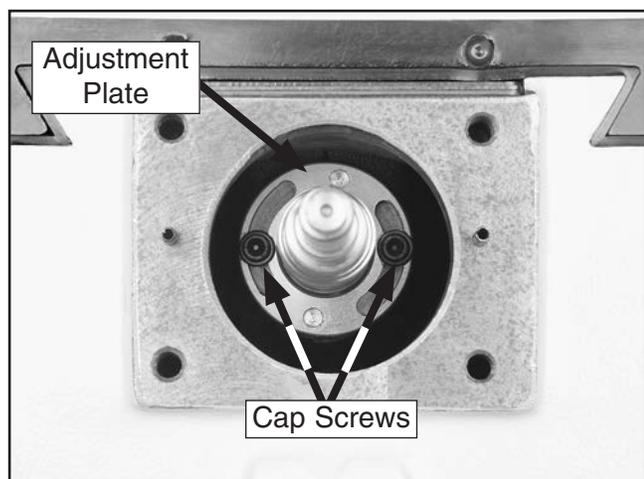

Figure 68. Cross feed leadscrew backlash adjustment plate and cap screws.
7. Use the T-handle 5mm hex wrench to loosen the two cap screws shown in **Figure 68**.